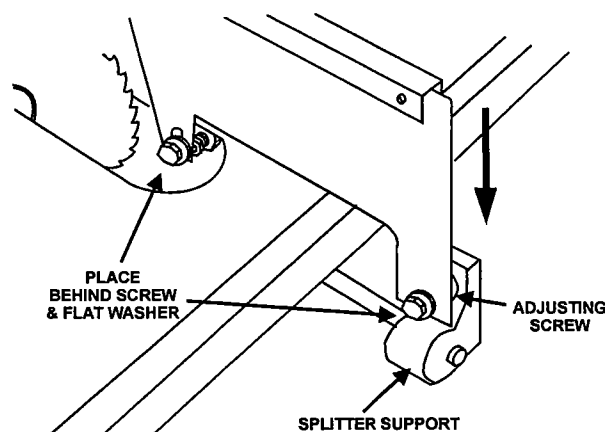

FIGURE 2
3. Mount the splitter assembly to the two adjusting screws, Figure 2. Place the two flanges of the splitter assembly onto the screws as shown.